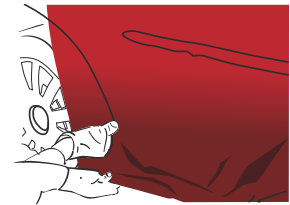

Figure 09
- › Apply the peak with a finger or a felt-covered plastic squeegee. (FIG. 09)